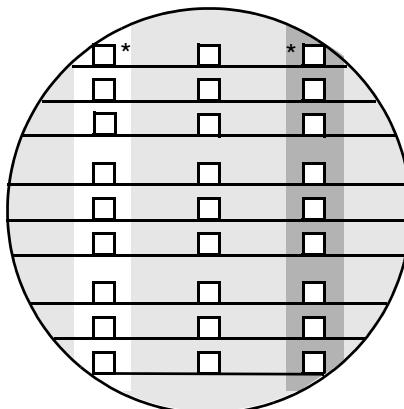

Fig. 1b
- Cross off Plexi capillaries in Fig. 1b that are not visible.